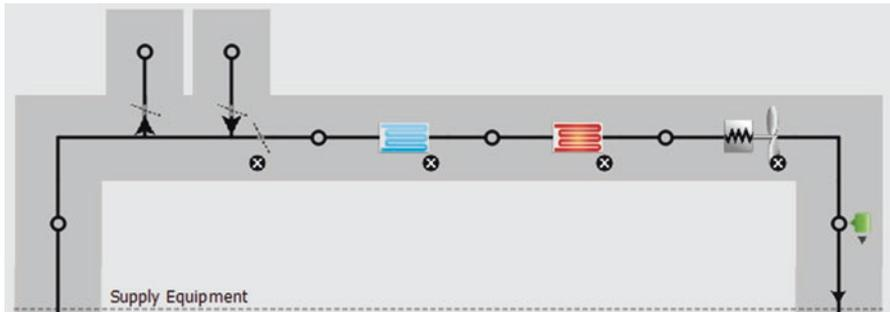

Fig. 5.40 Air Loop with initial supply Equipment components
1. Add Objects to the Loop by dragging them from the Library onto Nodes as shown in Fig. 5.40: